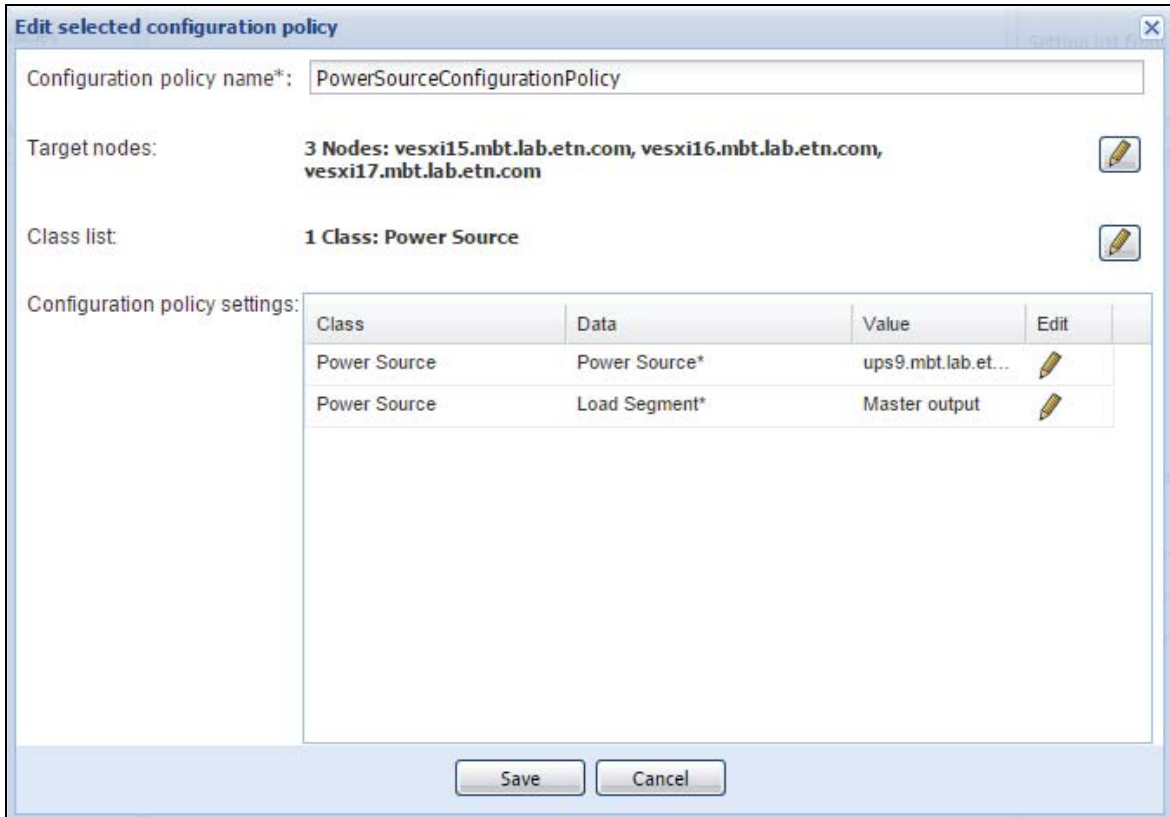

Figure 237. Edit Selected Configuration Policy
- Then, in the “Configuration policy settings,” configure the correct power source (see Figure 237).